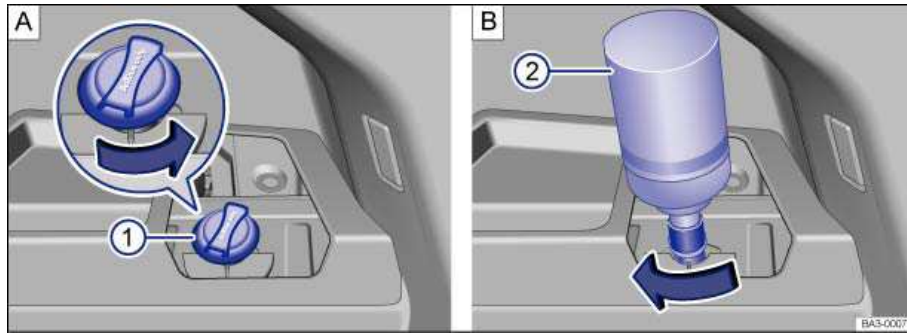

Fig. 177 AdBlue tank with filler neck cap 1 and refill bottle 2.
- Unscrew the tank filler neck cap ⇒ fig. 177 \(1\) counterclockwise and remove.